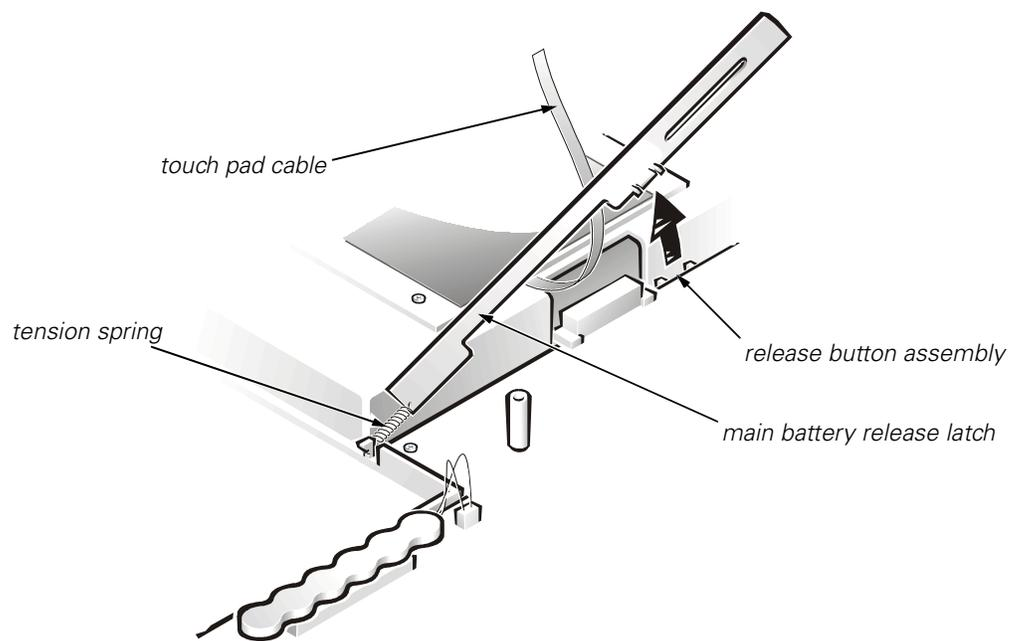

Figure 17. Main Battery Release Latch
6. Carefully disconnect the touch pad cable from the ZIF connector on the system board (see Figure 4 and Figure 17).
7. Grasp the top of the battery release latch and gently pull up to free it from the release button assembly, which is located underneath the system board (see Figure 17).
4. Remove the main battery release latch (see Figure 17).